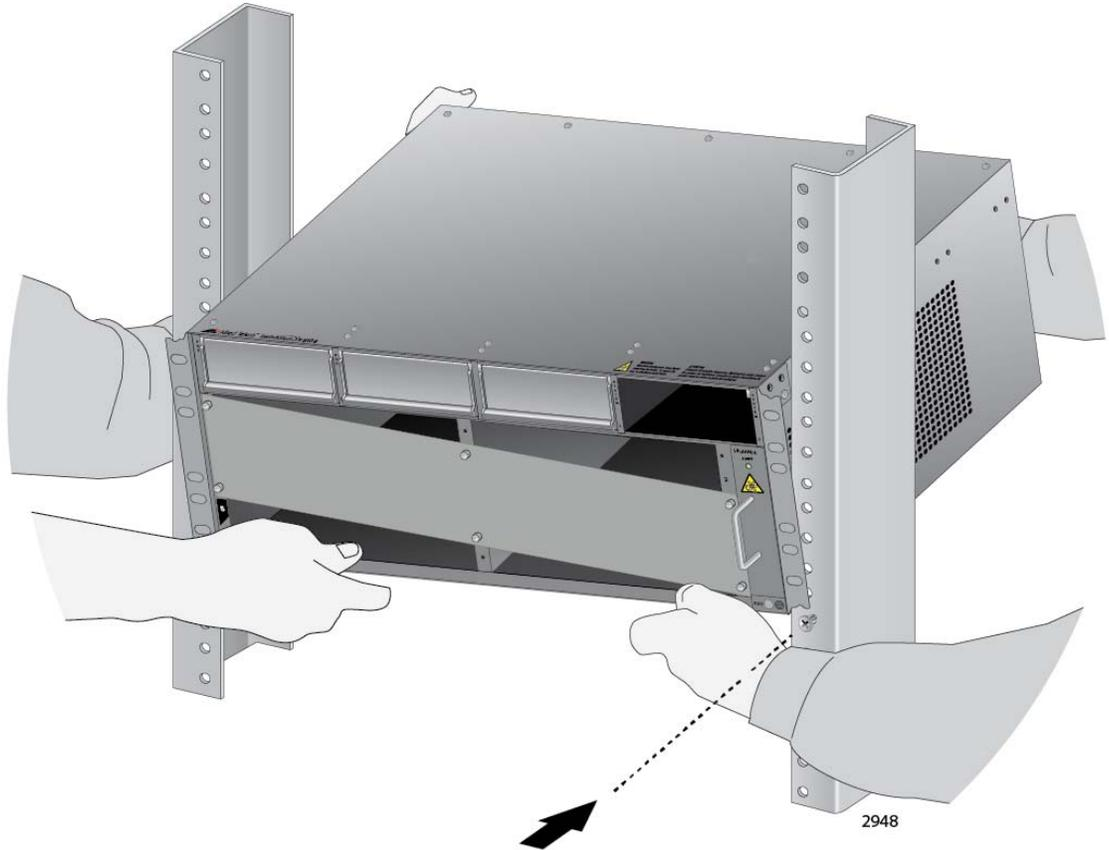

Figure 37. Lifting the AT-SBx8106 Chassis into the Equipment Rack
2. Lift the AT-SBx8106 Chassis into the equipment rack and set the bottom of the equipment rack brackets firmly on the two equipment rack screws you installed in “Preparing the Equipment Rack” on page 73, as shown in Figure 37.